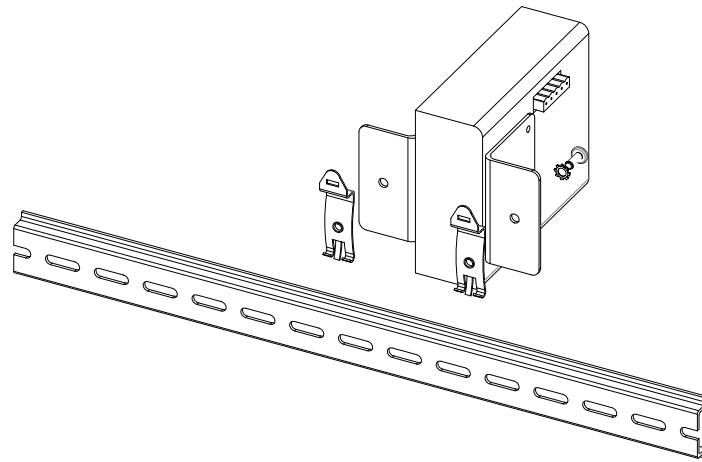

Figure 11-9: Mounting the Brackets on a DIN Rail
8. The MPIO mounting brackets kit comes with 2 DIN rail mounting clips and an 8mm screw and lock washer for each clip. The clips let you easily mount the connected I/O modules (or a single I/O module between two brackets) on a DIN rail. See Figure 11-9.